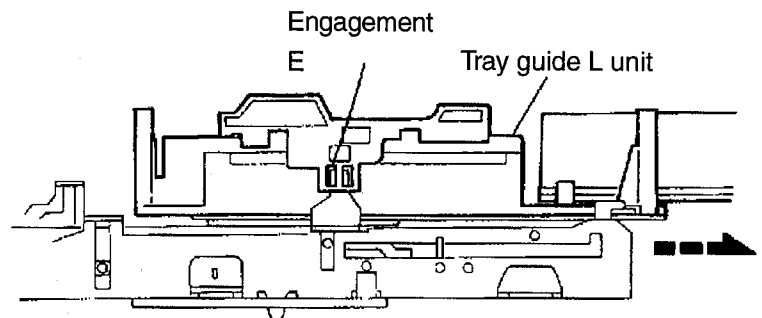

Fig.8
- 4.Disengage the two engagements D fixing the tray guide(L) unit while moving the engagements in the arrow D direction (See Fig. 8).
- 5.Pull out the engagement E from the mechanism chassis,and remove it together with the CD tray (See Fig.8).